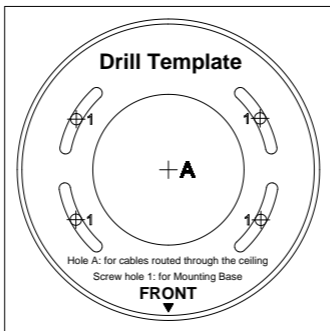

Figure 2-3 Drill Template
3. Fix the mounting base with expansion screws or self-tapping screws. If you use expansion screws, drill the screw holes according to the Screw Hole 1 of the drill template, see Figure 2-3.